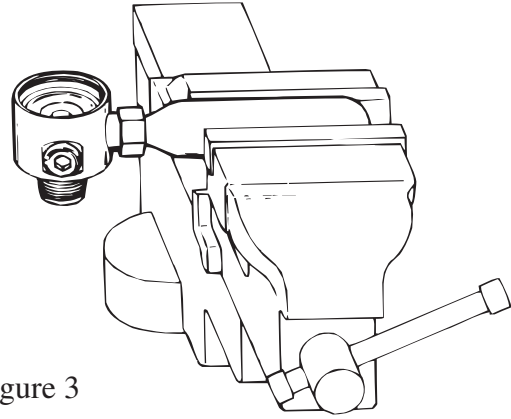

Figure 3
1. Screw an empty CO₂ cartridge into a low-pressure port on the first-stage body (Item 16). Mount the first-stage body in a bench vise, mainspring side facing upward, by means of the CO₂ cartridge. (See Figure 3)